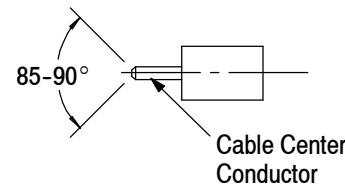

Figure 3
3. Shape the blunt end of the center conductor to a cone between 85 and 90°. See Figure 3.